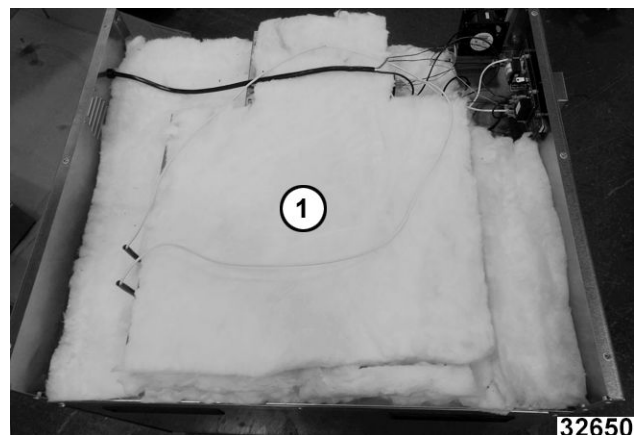

Fig. 6
2. Remove insulation (1, Fig. 6).